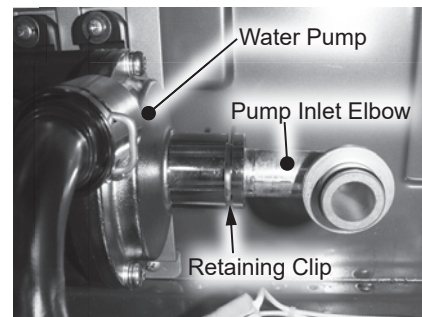

Figure 166 - Pump inlet elbow location
- Locate the pump inlet elbow. Remove the retaining clip securing elbow to water pump. Remove pump inlet elbow and dispose of properly. See Figure 166.